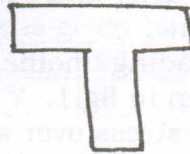

Fig 2
- (f) Sketch the distribution of shear stress over a T-section shown in fig.2.(3)
- (g) In what form is a fixed end of the actual beam? (3)
- (h) The polar modulus for a solid shaft is $\frac{\pi D^3}{16}$. What is the polar modulus for a hollow shaft? (3)